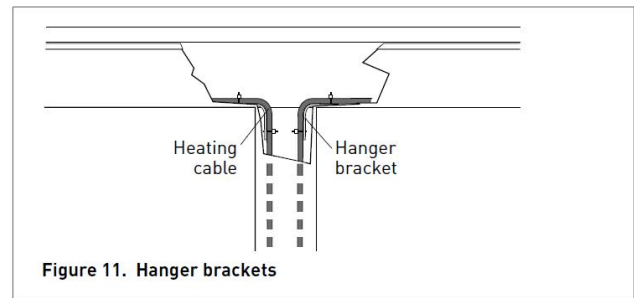

Figure 11. Hanger brackets
- Use Hanger Brackets at the gutter/downspout transition to protect the heating cable from fraying and from damage from sharp edges and to provide strain relief as shown in Figure 11.